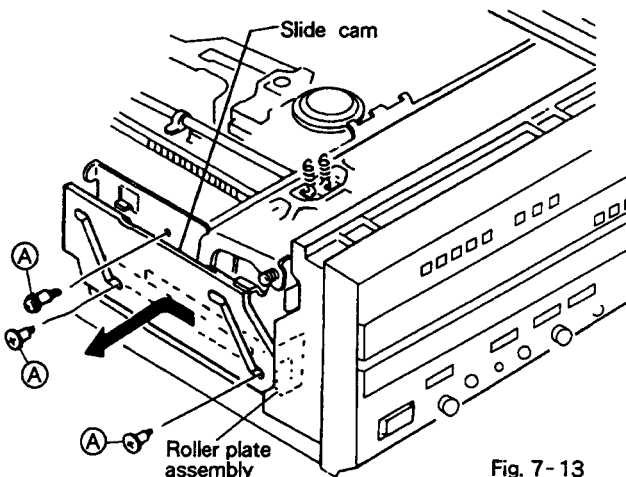

Fig. 7-13
7.9 REMOVING THE SLIDE CAM AND ROLLER PLATE ASSEMBLY (Fig. 7-13)
- ① Set the player with the tray down.
- ② Remove three screws (A) and slide the slide cam toward the rear to remove it.
- ③ Remove the clamber arm (A) assembly (see page 75) after removing slide cam to remove the roller plate assembly.